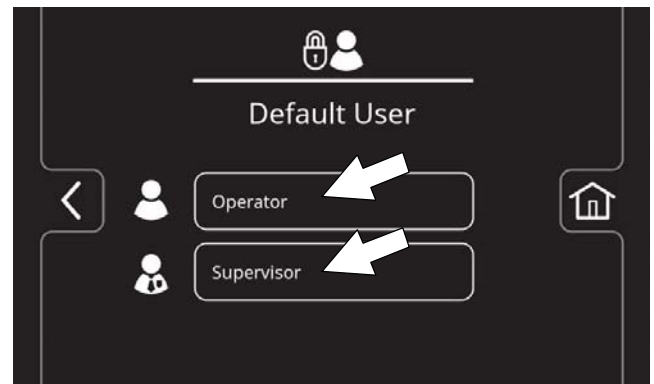

FIG. 187
6. Press either the Operator button or Supervisor button to select desired user profile as your home screen default without login (Figure 187).